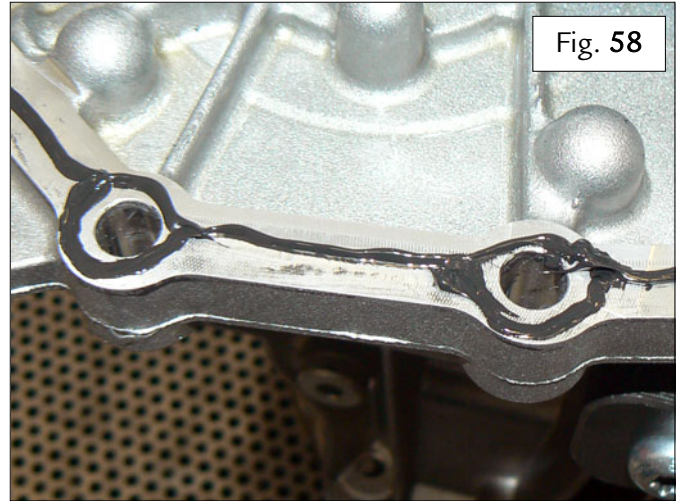

Fig. 58
- Apply a continuous bead of **Loctite 5970** around the holes in the outer mating surface of the interface plate as shown in the photo aside – Fig. 58.